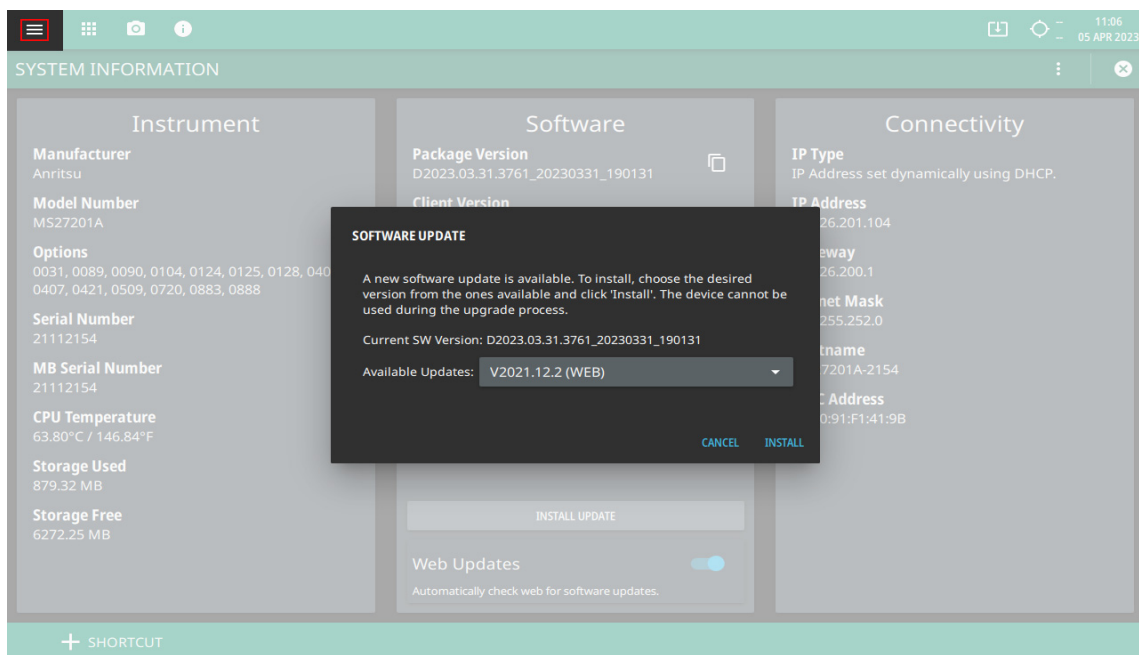

Figure 2-53. Updating the Software
1. Start the software update via one of the two ways below (see Figure 2-53):